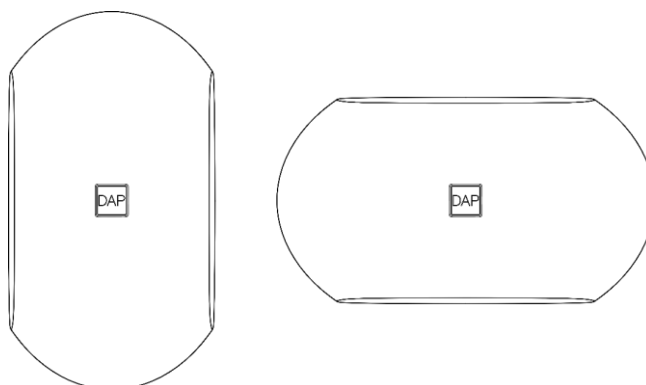

Fig. 21
- 04) Rotate the **ball-joint (11)** to set the device in a vertical or horizontal orientation (Fig. 21). The ball-joint rotation range is 90°.